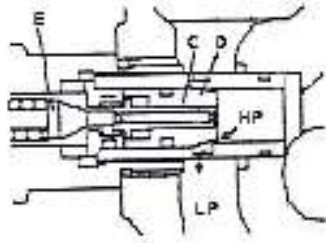

Fig. 2-51
(2) Action of Safety Overflow Valve (Fig. 2-51)
A tilting self-locking valve is set in the valve plate of dump ram. Such self-locking valve is adopted to prevent the mast from sudden dropping and to prevent danger due to the mis-operation of tilting valve rod when there is negative pressure produced in the oil cylinder. With such self-locking valve, the mast will not tilt forward even you push the control lever forcibly when the engine is stopped. The oil flow when the valve core is pulled out is the same with that in Fig. 2-51. At this moment, the mast is tilted backward.